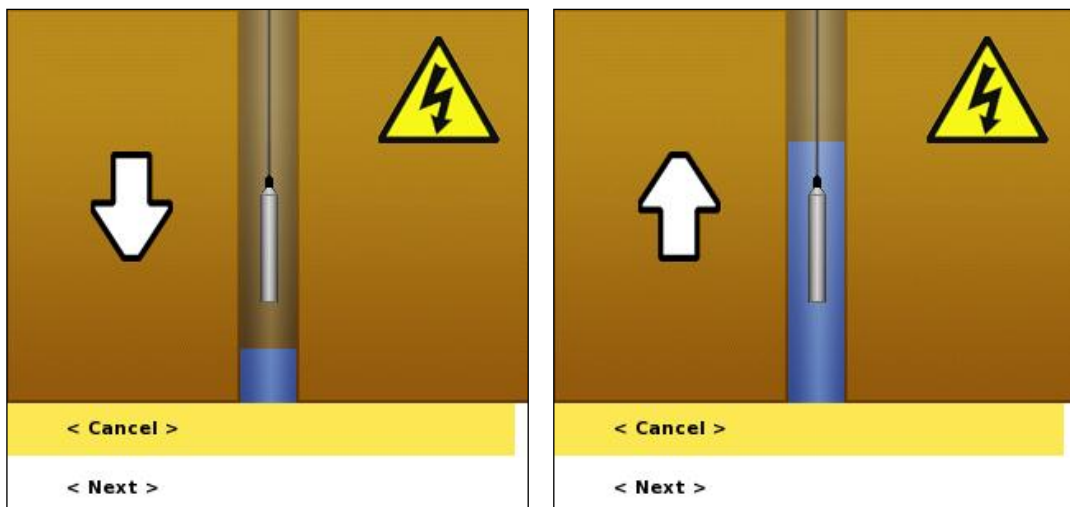

Figure 82 Level Indicator dialog
- A level indicator dialog is shown (Figure 82). The picture on the dialog will change automatically depending on whether water is detected or not, respectively showing that the probe should be lowered or raised to more accurately determine the water level.